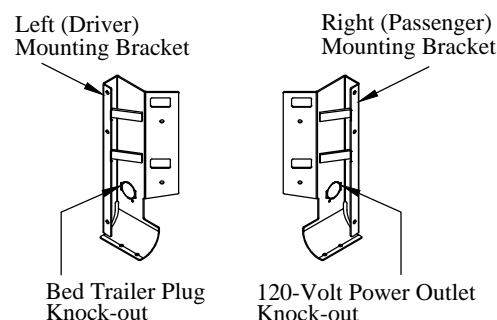

Figure 6: Bracket knock-outs.
6. **Remove** the knock-out from the right (passenger) side mounting bracket (Figure 6).
9. **Remove** the knock-out from the left (driver) side mounting bracket (Figure 6).